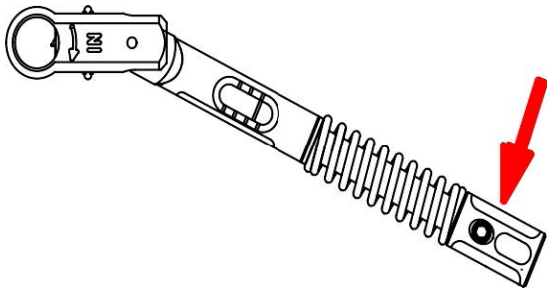

Figure 2
- The pressure point for accurate torque release is only on the handle of the adjusting nut (see arrow in *Figure 2*).